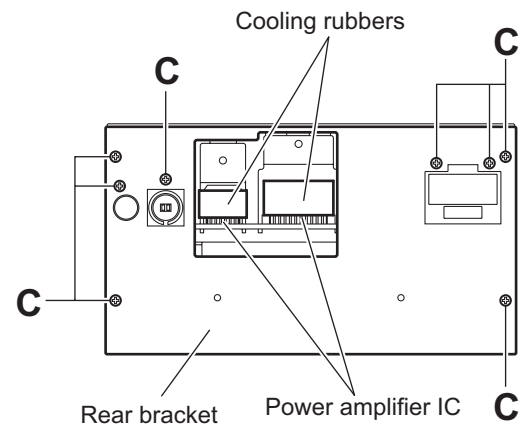

Fig.4
- Before attaching the heat sink, attach the cooling rubbers on the power amplifier IC. (See Fig.4)
3.1.3 Removing the rear bracket (See Fig.4)